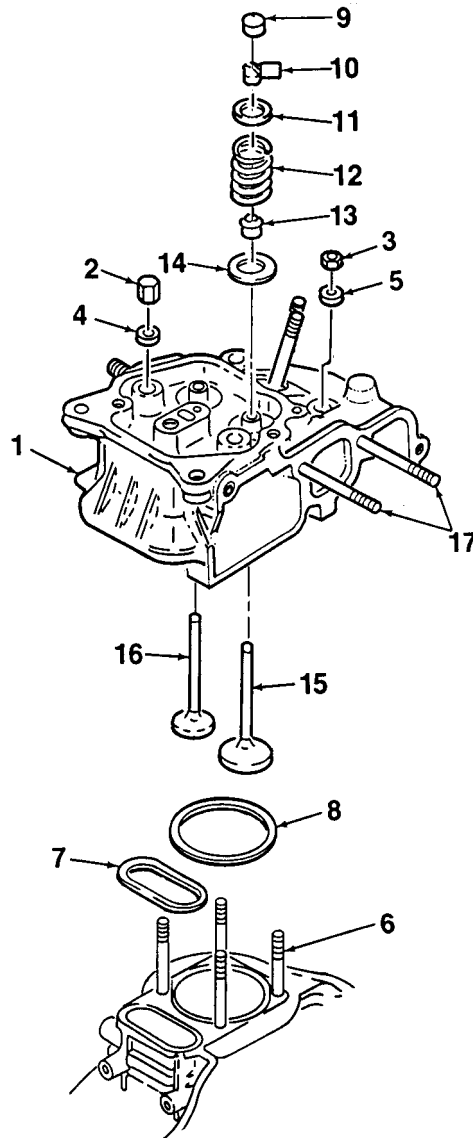
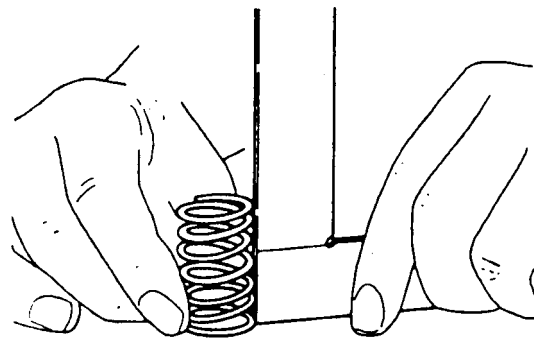
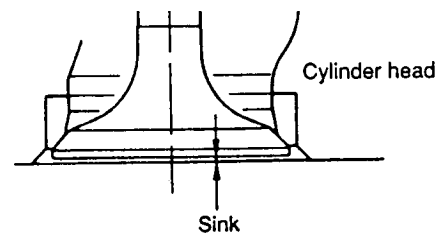

Figure 5-17. Cylinder Head Removal
Figure 5-19. Valve Spring Length
Figure 5-20. Valve Sinkage
1. Release cylinder head (1, Figure 5-17) from studs (6) by removing nuts (2, 3) and washers (4, 5). Carefully remove cylinder head from studs and place on a clean work surface.
2. Remove and discard O-ring (7) and cylinder head gasket (8).
3. Slide exhaust valve (16) and inlet valve (15) out of cylinder head (1).
4. Remove valve cap (9) and cotter assembly (10) from inlet valve (15).
2. Remove carbon deposits from cylinder head (1, Figure 5-17) and valves (15, 16) using a wire brush. Use care to prevent damage to surfaces.
1. Inspect cylinder head (1, Figure 5-17) for cracks, on, and deformation. Replace cylinder head if damaged or deformed in any manner
3. Measure the internal diameter (ID) of the valve guides (installed in cylinder head). ID shall be 0.2394 inch (6.08 mm), maximum. Replace cylinder head (1, Figure 5-17) if valve guide ID is out of limits.
4. Inspect valve springs (12) for cracks, broken sections, or deformation. Replace spring if damaged or deformed in any way.
5. Measure free length (non-compressed) of valve springs (Figure 5-19). Length must be 1.240 inch (31.5 mm), minimum. Replace valve spring if less than required length.
6. Insert valves (15, 16, Figure 5-17) into cylinder head (1). Measure valve sinkage (Figure 5-20). Sinkage shall be 0.043 inch (1.1 mm), maximum. If sinkage exceeds limit, discard valves.